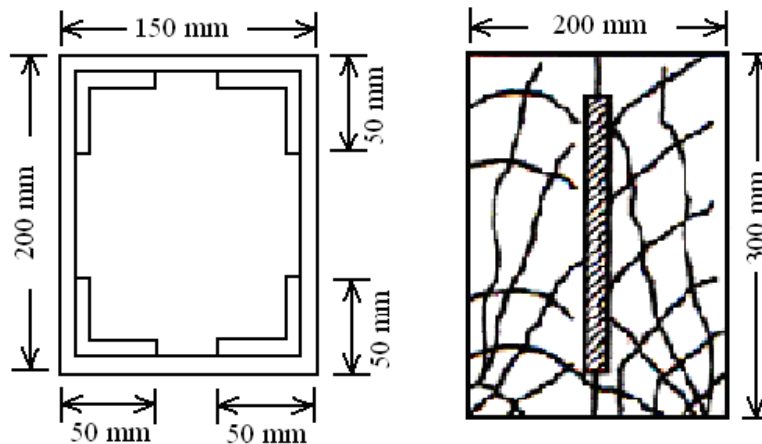

Figure 1:
1. Develop the shear stress distribution diagrams for the sections shown for the following figure 1 when subjected to a transverse S.F. of 200.0 kN. What are the maximum shear stresses? [16]